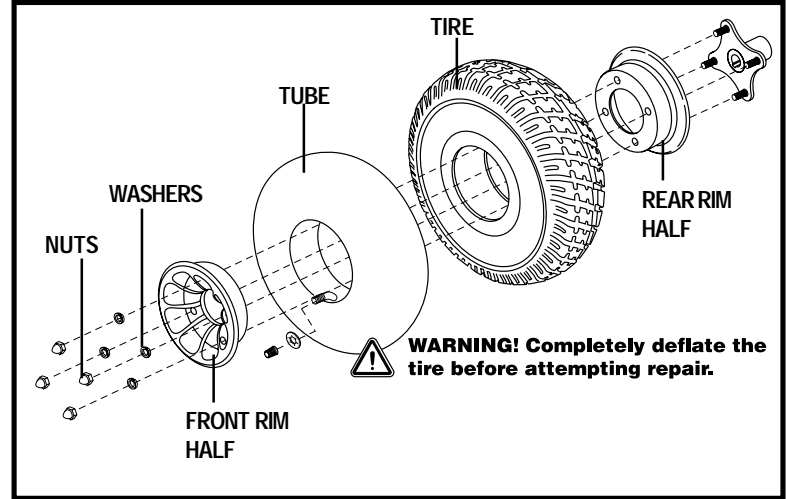

Figure 28. Drive Wheel Disassembled
6. Remove the nuts and washers that fasten the two rim halves together. See figure 28.